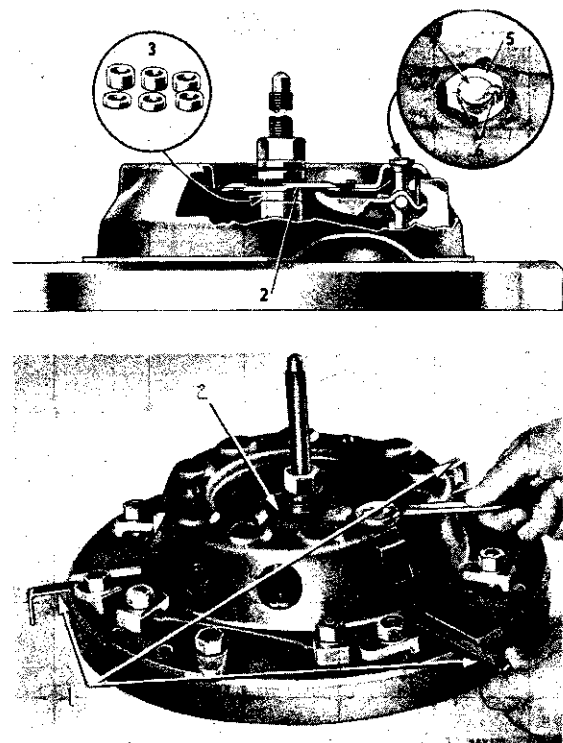

Fig. 6—Adjusting Clutch Release Levers
With the clutch compressed in fixture Tool C-585-A, screw the adjusting nuts on the protruding eyebolts until the nuts are flush with the tops of the eyebolts, as shown in Figure 6. Slowly release pressure by unscrewing the fixture compression nut. Depress the release levers several times (to properly seat the parts) by using fixture Tool C-585-A.
9. CLUTCH RELEASE LEVER ADJUSTMENT (FIG. 6)